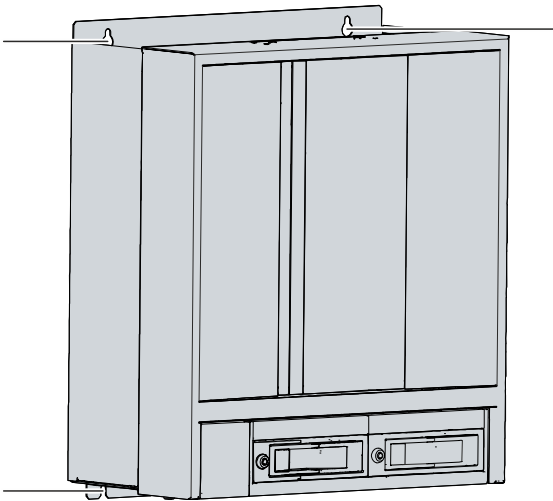

Fig. 19: Positions of the fastening screws
2. Lift the PC far enough so that the fastening screws slip into the keyholes (see fig. 19).